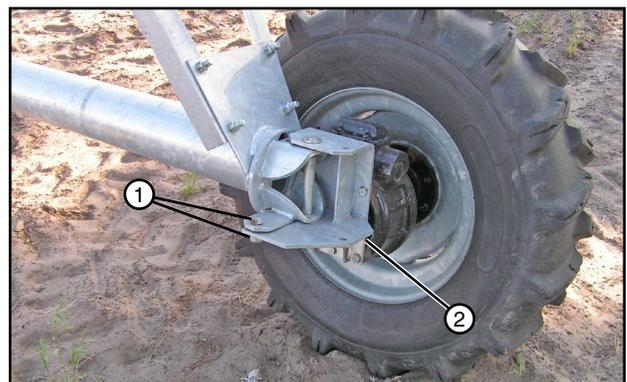

Figure 33-3 Operation Position
6. Remove and retain the hardware securing gear box mount in the operation position. See figure 33-3.